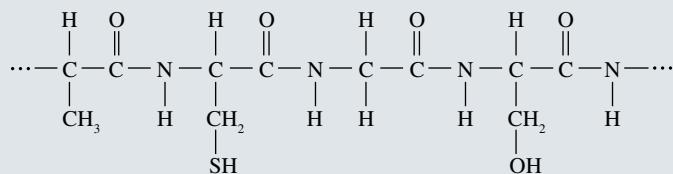

FIGURE 15.8.2 A section of a protein chain.
- d Circle the peptide links in the section of a protein chain shown in Figure 15.8.2.